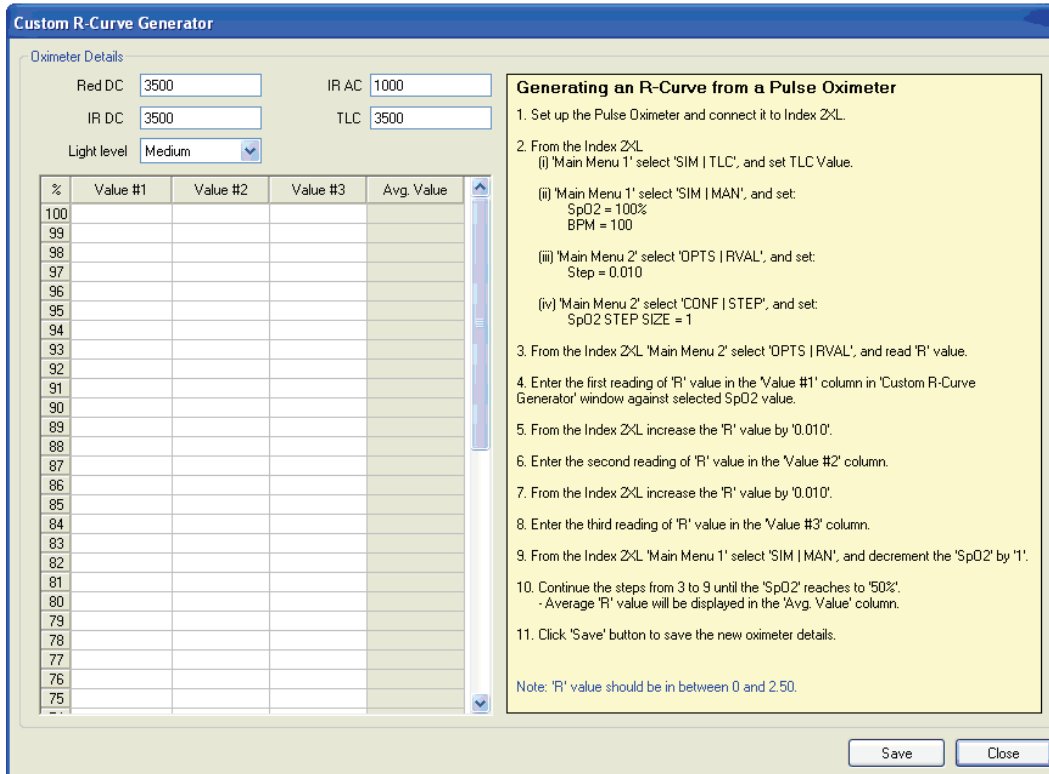

Figure 2-9. Custom R-Curve Generator window
- Click  to create a new oximeter. The “**Custom R-Curve Generator**” window appears as shown in Figure 2-9.